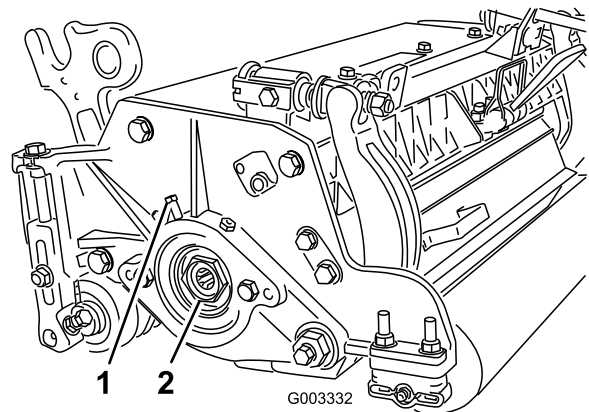

Figure 32
- A. Loosen external set screw securing bearing adjusting nut to bearing housing located on the left side of the cutting unit (Figure 32).